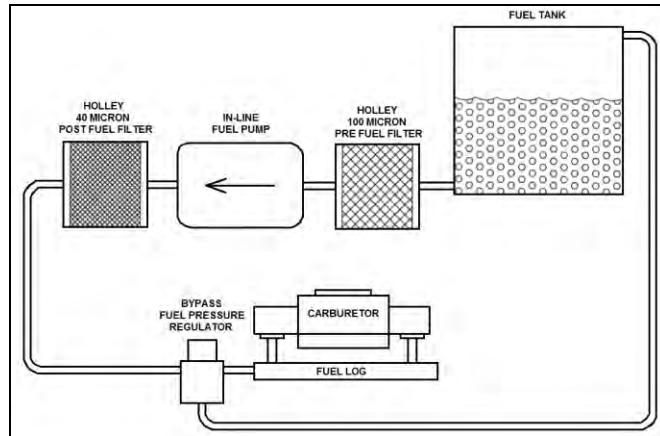

Figure 2
3. The 12-803BP bypass regulator has one bypass or return port. This port (labeled "RET") must be connected to the storage tank with a fuel line the same size as the supply line (3/8" I.D. is recommended). See Figures 2 & 3.
5. Connect the other line per Figure 2 or 3.
**WARNING! TURNING THE ADJUSTMENT SCREW ALL THE WAY IN WILL RESULT IN EXCESSIVE FUEL PRESSURE AND CAUSE THE CARBURETOR TO FLOOD. A FLOODED CARBURETOR CAN CAUSE A FIRE AND/OR EXPLOSION RESULTING IN PROPERTY DAMAGE, SERIOUS INJURY, AND/OR DEATH. ALWAYS USE A FUEL PRESSURE GAUGE BETWEEN THE REGULATOR AND THE CARBURETOR(S) WHEN ADJUSTING THE FUEL PRESSURE REGULATOR.**